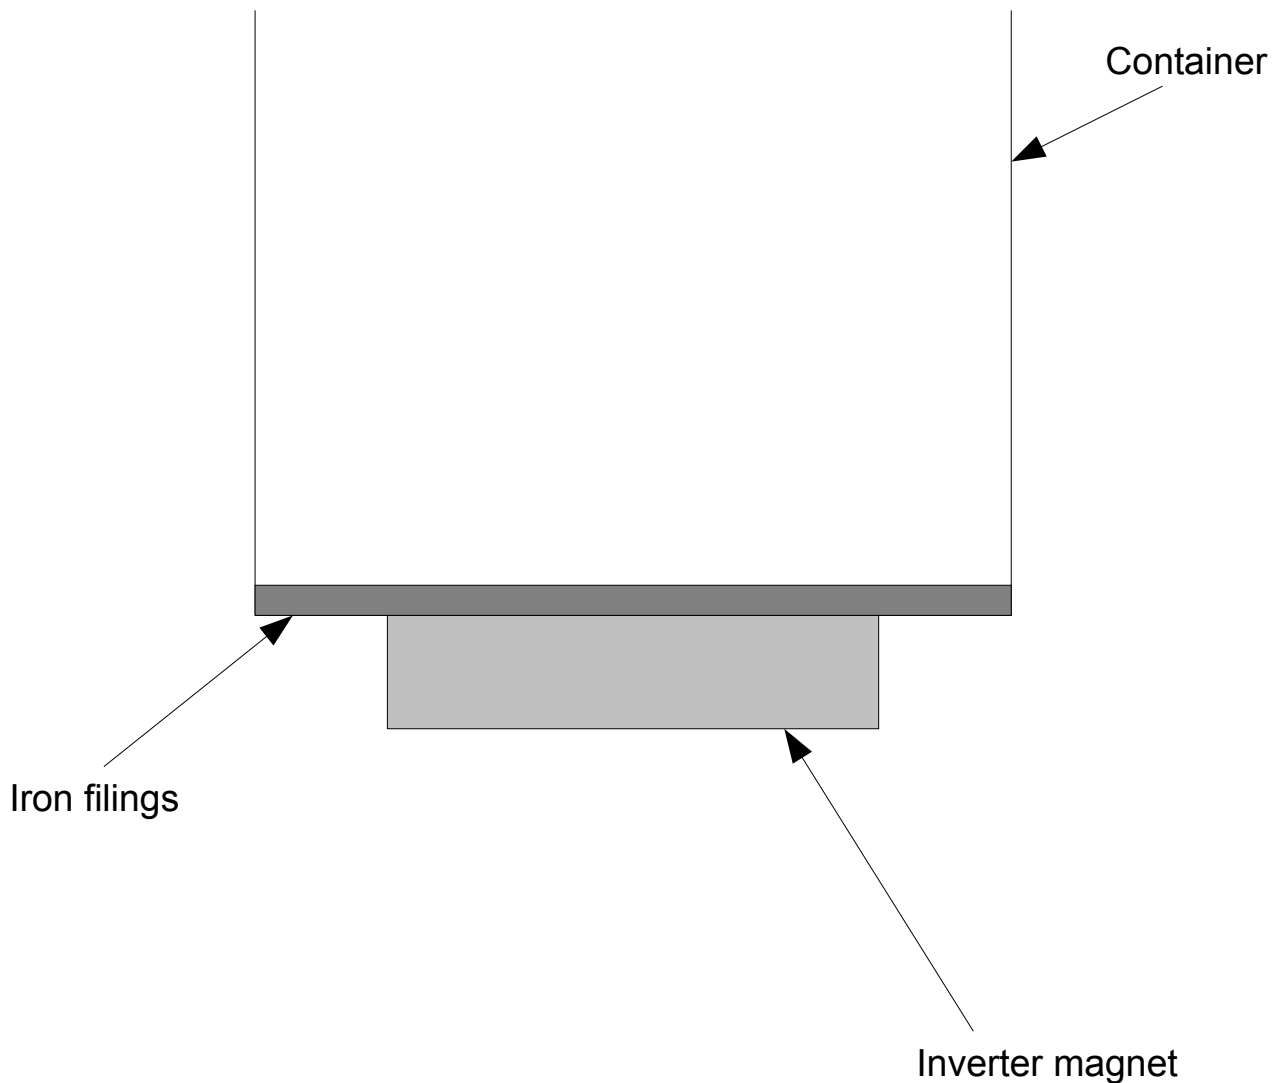

Figure 1: The equipment setup for experiment 1.
Step 2: Attach your inverter magnet to the underside of your container as shown in figure 1 (be careful that you don't hold your inverter magnet above the container, the iron filings may get stuck to the magnets and they can be difficult to remove).